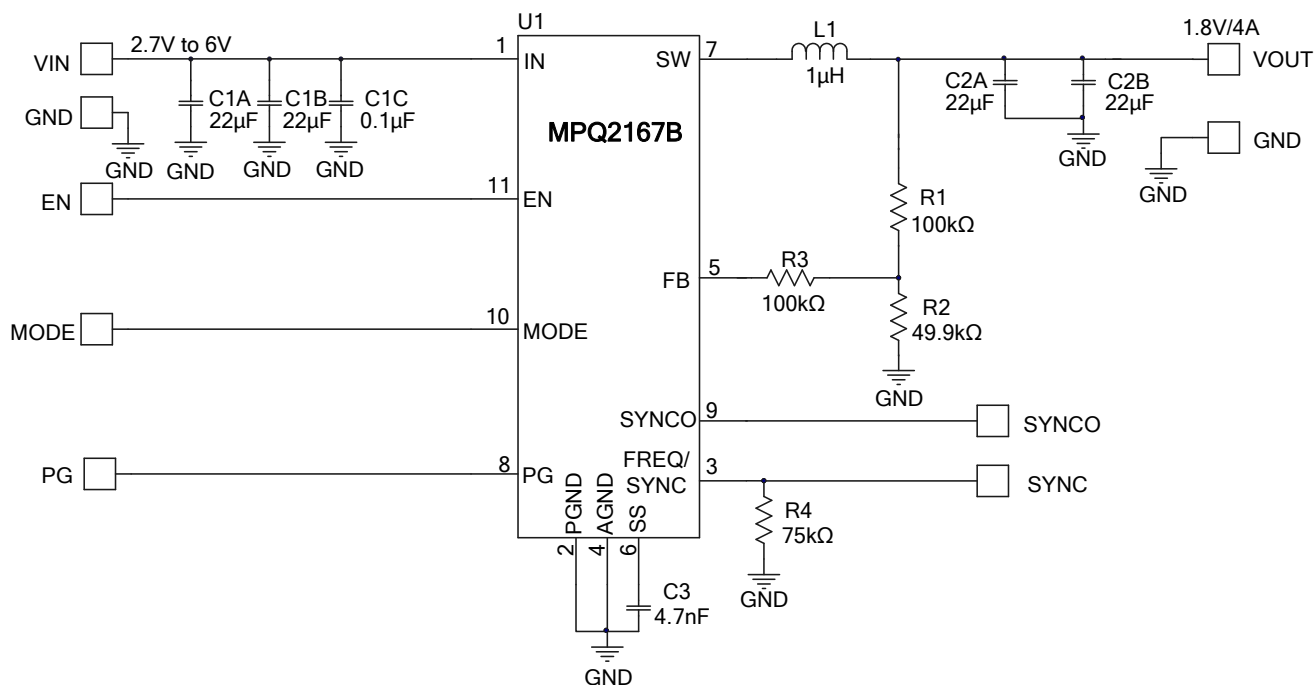

Figure 5: $V_{OUT} = 1.8V$, $I_{OUT} = 4A$ Application Circuit
- 7) The recommended PCB layout is based on Figure 5.